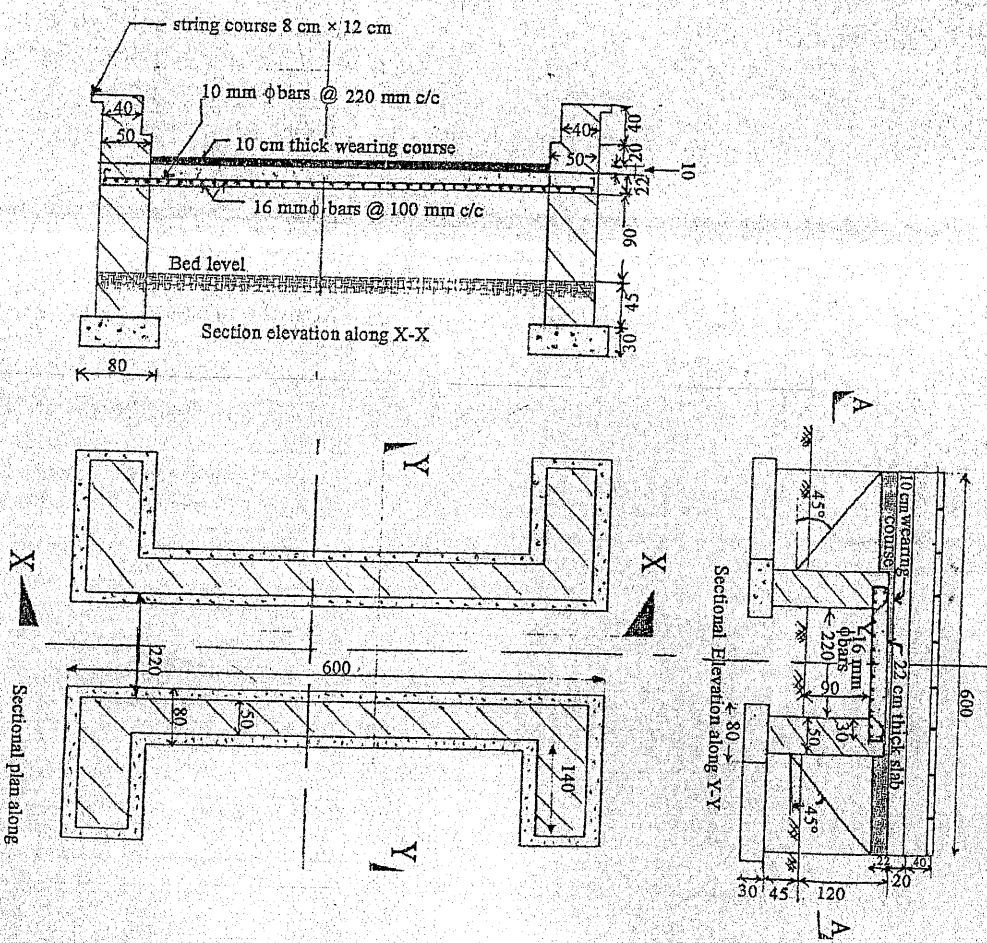

Figure 2
10. Find following item of works from attached drawing of slab culvert (Figure 2). [4×3]